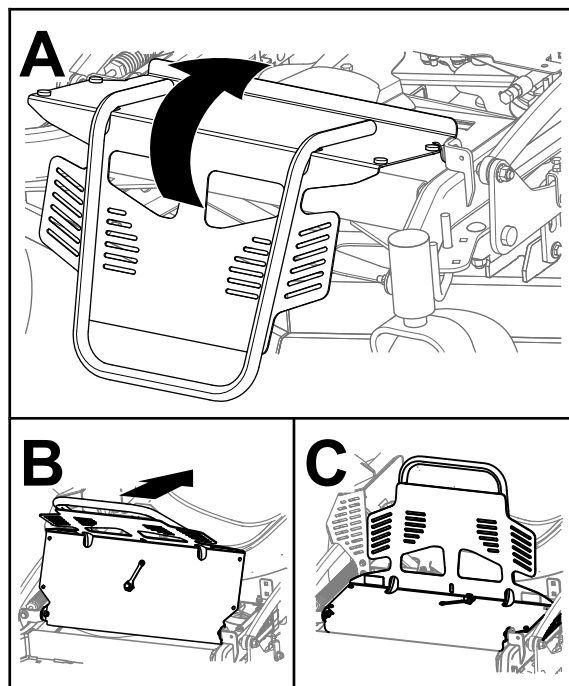

Figure 33
3. Rotate the engine guard back as shown in Figure 33.